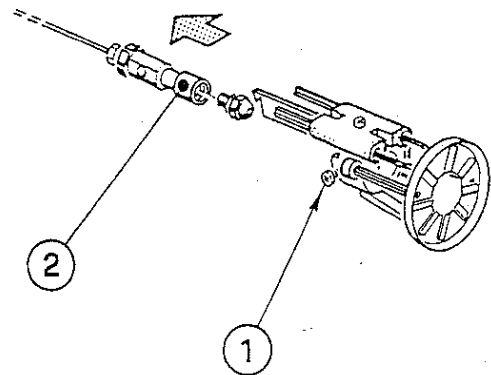

Figure 6: Riello Nozzle Replacement
b. **Nozzle Replacement**, refer to Figure 6.
- i. Remove the NOZZLE ADAPTER (2) from the DRAWER ASSEMBLY by loosening the SCREW (1).